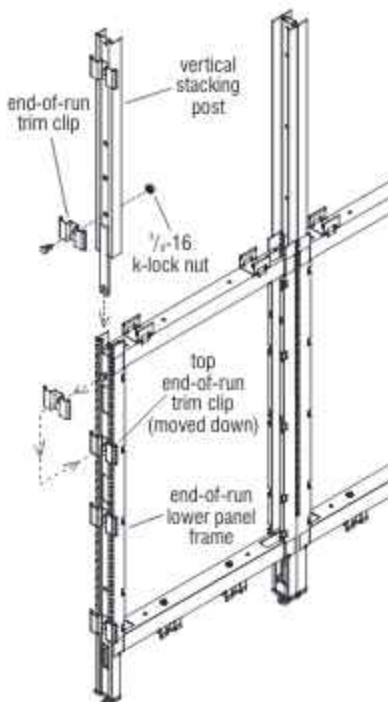
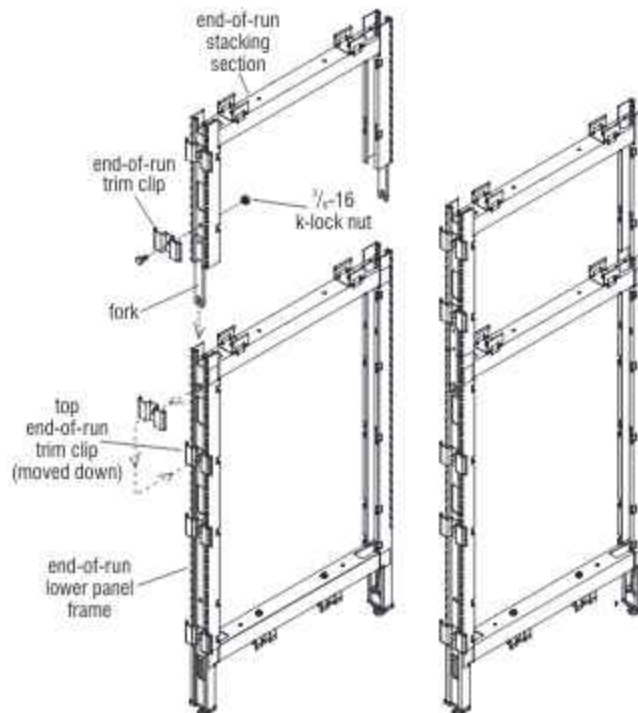

Figure 17 - End-of-Run Clips with Stacking Sections (aluminum frame)
Figure 18 - Stacking Sections (steel frame)
**Important:** If an "end-of-run trim clip" was previously installed to the top of the lower panel, it must be removed and re-installed down one hole location so the fork of the stacking section can be secured. (See "End-of-Run Trim Clip Installation" on page 15, Figure 18).
- For "stacking sections (aluminum frame) with glass, perforated steel or steel top frames" (shown Figure 17), or "stacking sections (steel frame) with fabric, markerboard or slat wall tiles" (shown Figure 18), end-of-run trim clips install to the upper frame (see "Upper Panel Frame at Change-of-Height" chart below for quantity). For the "end-of-run lower panel frame" (Figure 18), the uppermost end-of-run clip must be re-installed one hole location below the top mounting hole. This is so the "fork" of the stacking section can install to the end of the lower panel frame.
- Slide/tap the stacking section down at end of the panel frame as illustrated, with the notch of the fork behind the  $\frac{3}{8}$ -16 x  $\frac{3}{4}$ " hex bolt. Tighten the hex bolt and k-lock nut to secure (Figures 17 & 18).